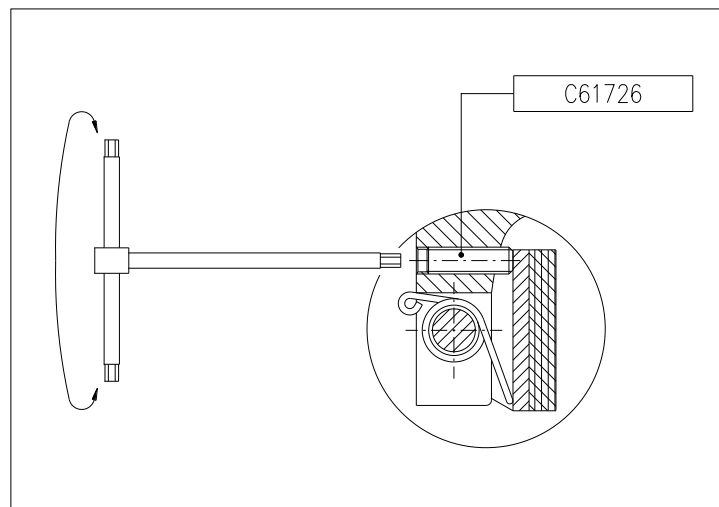

Figure 2
7. Adjust the brake shoes using the grub screw C61726 rotating it in the appropriate direction with a n. 2 Allen key; the friction surface of the brake linings must be parallel to the surface of the disc (Figure 2) with a play of 1mm.